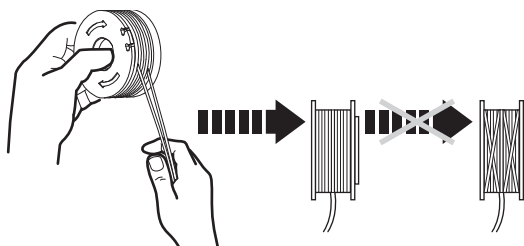

Fig. 29
8. Wind all the trimming line (13d) firmly around the spool in direction of the arrows on the trimming spool (13c) (Fig. 29).